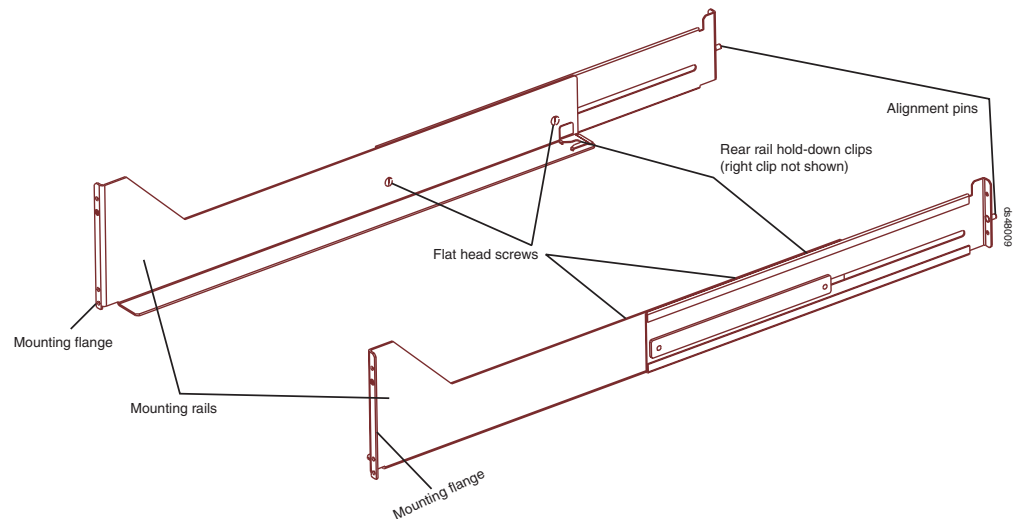

Figure 16. DS5100 or DS5300 support rail assembly
Figure 16 shows the support rail assembly for the DS5100 or DS5300.
Note: Refer to Figure 16 while performing these steps.
6. Starting with the left rail, use a medium flat-blade screwdriver to loosen the two flat-head rail adjustment screws. See Figure 16 on page 43.
Attention: When you slide the storage subsystem into the cabinet, verify that the back of the DS5100 or DS5300 is secured by the hold-down clips located at the back of each rail. With the M5 rail screws loosely threaded, you can make minor adjustments to the rails to ensure that the subsystem latches in the hold-down clips. The hold-down clips are shown in Figure 16 on page 43.